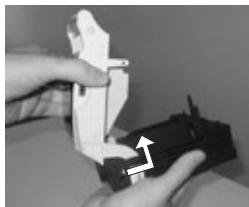

Figure 3
- Move the cover along the base of the disconnector and then take off the cover form the base (Figure 3).